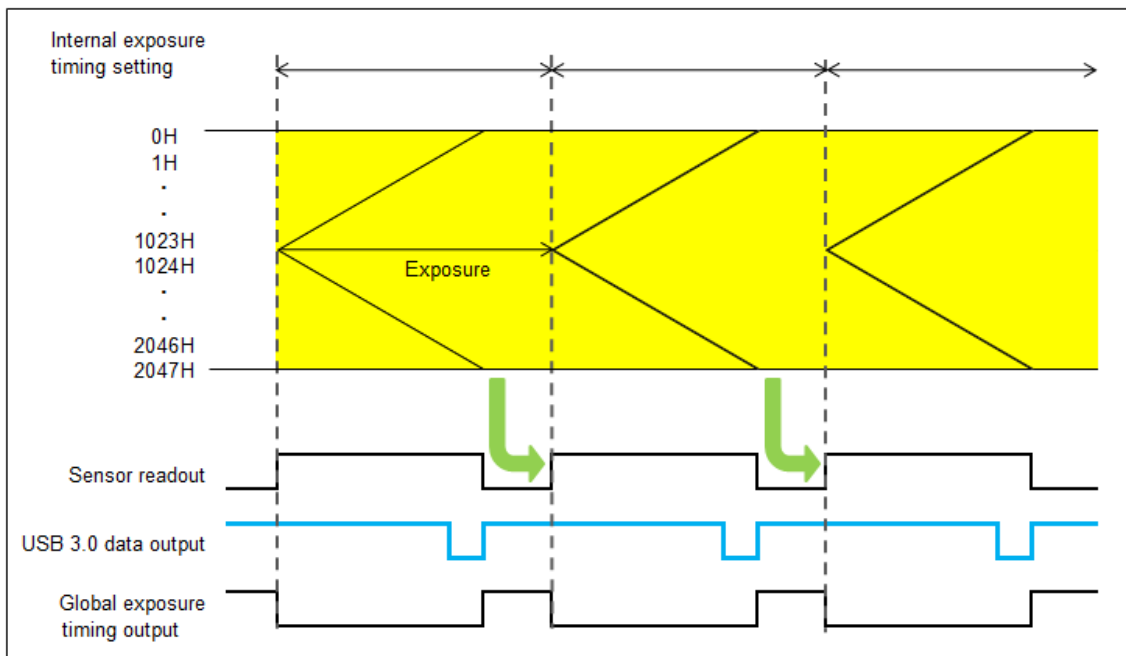
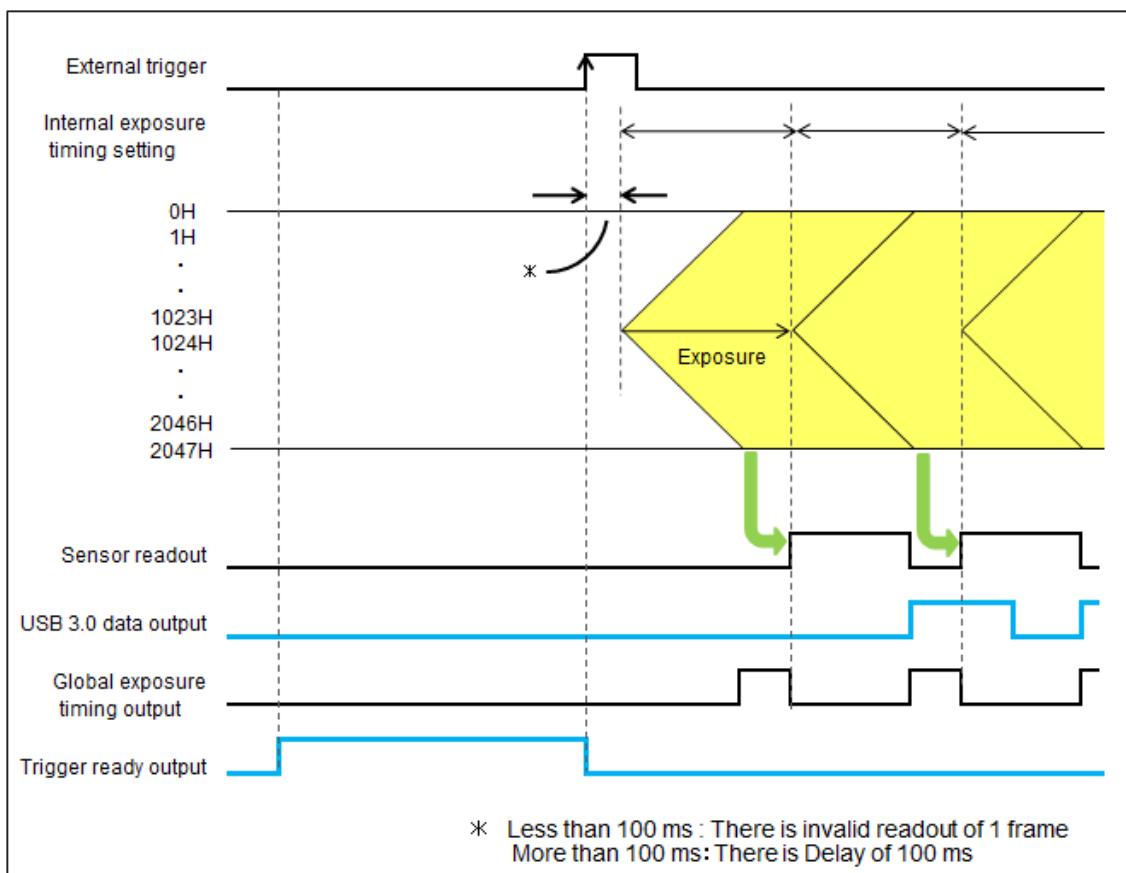

Figure 9-5
Figure 9-11 (Ex. rising edge)
- Please refer to Figure 9-5 to Figure 9-11 about details of each trigger output functions.